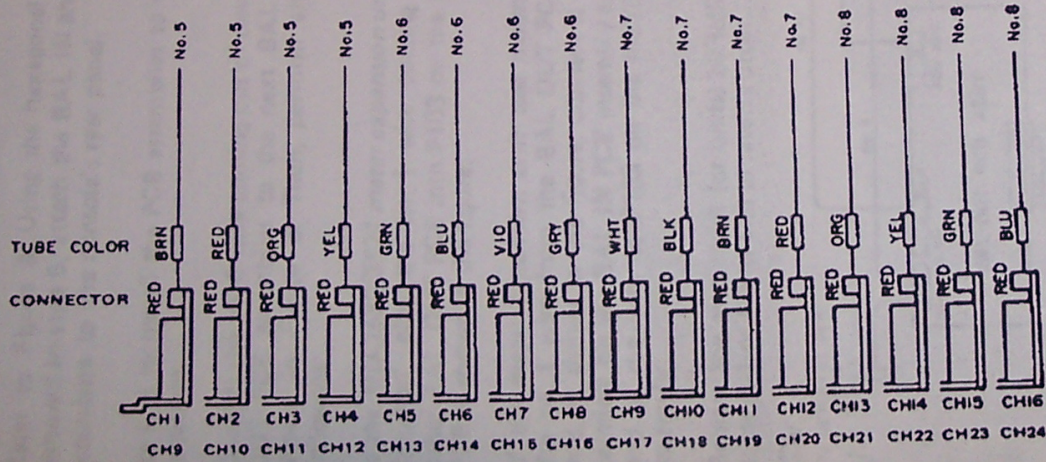

FIG. 4:
NOTE: Figs 4 + 5 inside are a bottom view
2. Refer to Figure 4 and plug the provided wires no. 5 through no. 8 into the INPUT JACK PCB Assembly.